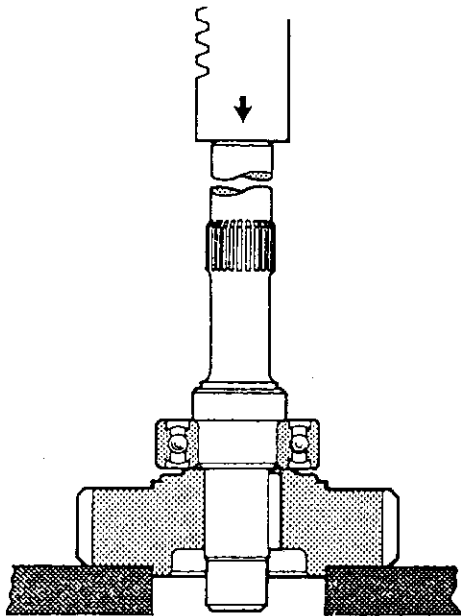

Figure 5.18
5. Insert the drive shaft key (27) into the shaft (28) and orient the drive shaft gear (9) to the shaft and key with the raised boss toward the bearing. Press gear onto the shaft as shown in Figure 5.18.